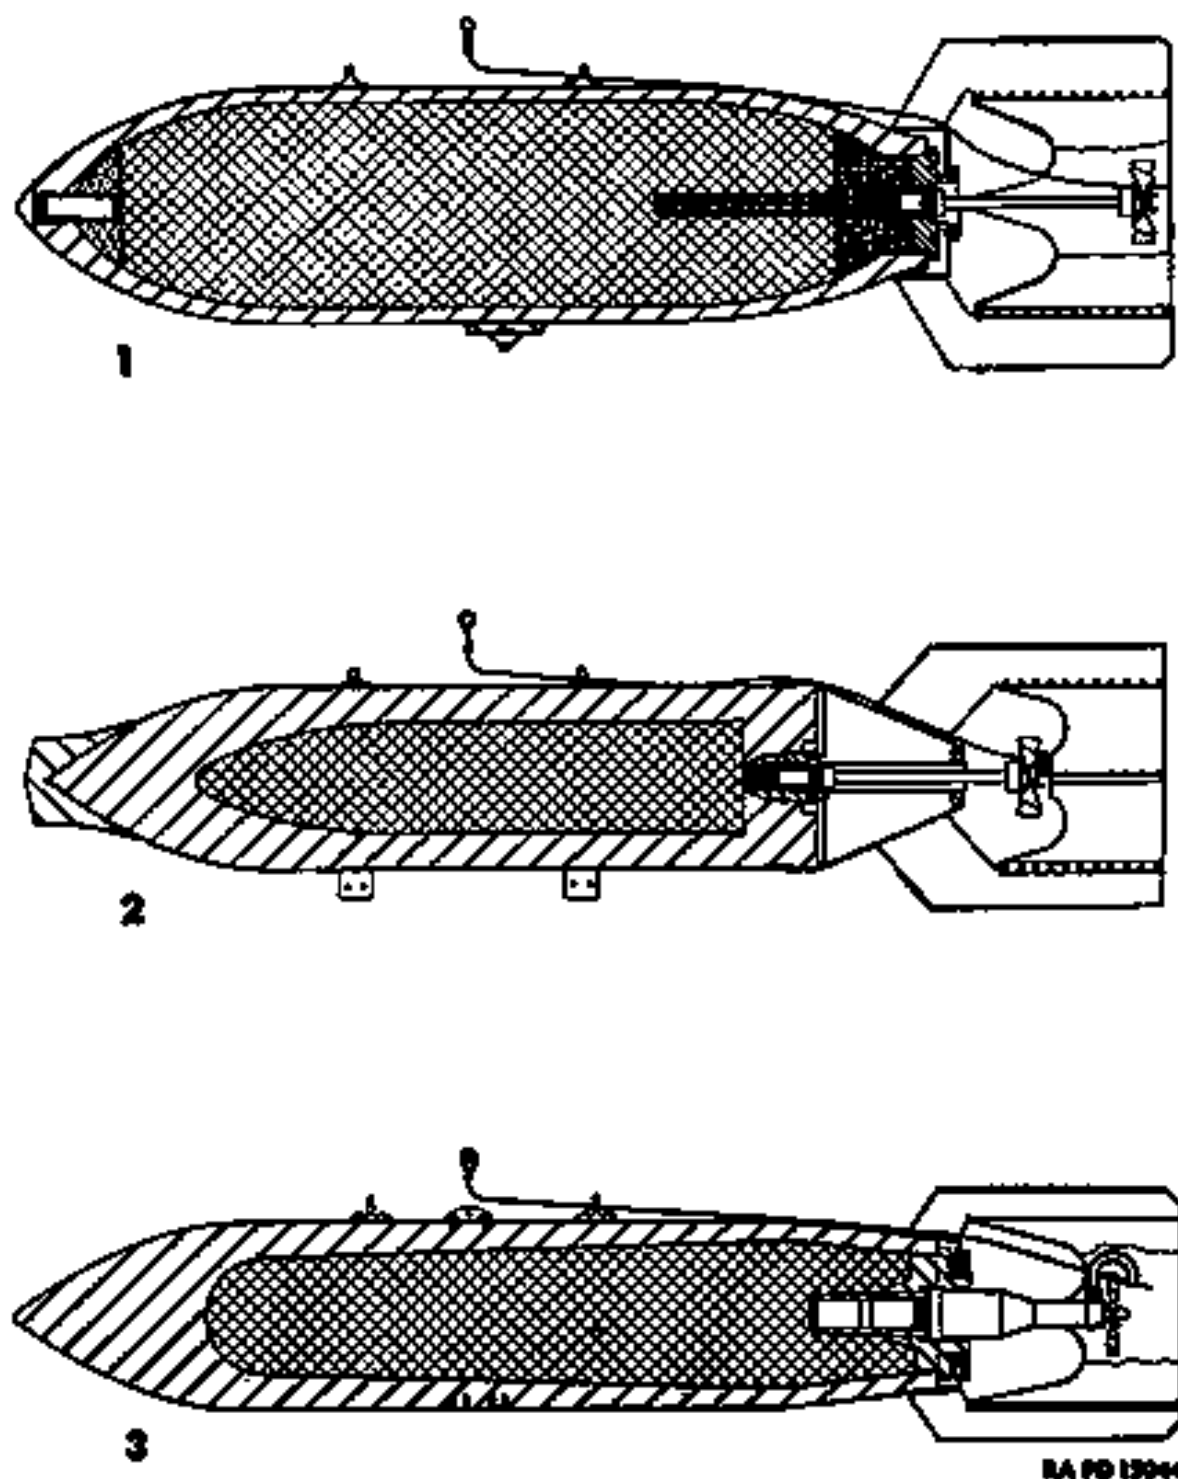

Figure 94. ① BOMB, S.A.P., 1000-lb., AN-M59; ② BOMB, A.P., 1000-lb., M52; ③ BOMB, A.P., 1000-lb., AN-Mk. 33.
80. DESCRIPTION AND ASSEMBLY. *a. Description.* Armor-piercing (A.P.) and semiarmor-piercing (S.A.P.) bombs have heavier cases and are more streamlined than the cylindrical type. (See fig. 94.) S.A.P. bombs are designed for both nose and tail fuze but, in practice, the nose fuze seat is filled with a steel plug and only a tail fuze is used. A.P. bombs of the AN-Mk.-series—that is, those whose model numbers are prefixed AN-Mk.—are streamlined and have a solid metal nose. Suspension lugs, trunnions, and hoisting lugs are screwed into tapped holes in the bomb body. (Earlier models use suspension bands and trunnion bands.) This type has studs near the tail for properly locating the fin assembly. A.P. bombs of the M-series are converted heavy caliber artillery shell fitted with a bomb adapter-booster in place of the artillery fuze and equipped with suspension or trunnion bands and a fin assembly.